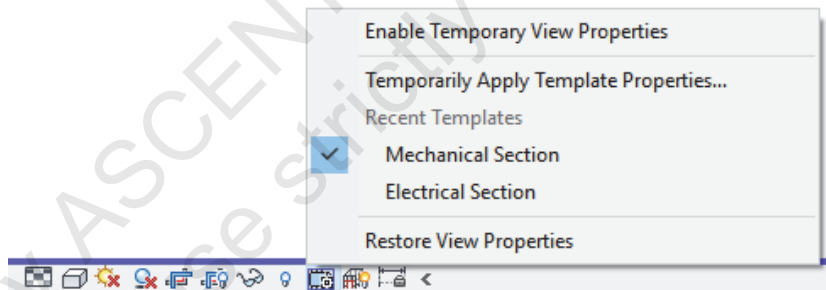

Figure 1–145
As you are working, it can be helpful to temporarily override the view. You can do this by selecting a view template from the View Control Bar, as shown in Figure 1–145.
2. Expand  (Temporary View Properties) again and select **Temporarily Apply Template Properties**. Alternatively, if you have already used the process, you can select from a list of view templates, as shown in Figure 1–145.